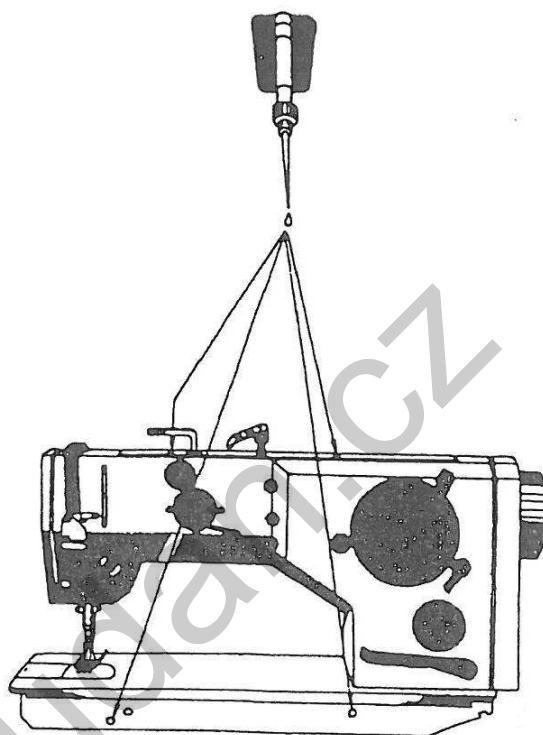

Fig. 1
**5. To clean and lubricate the machine (Fig. 1, Tab. 12)**